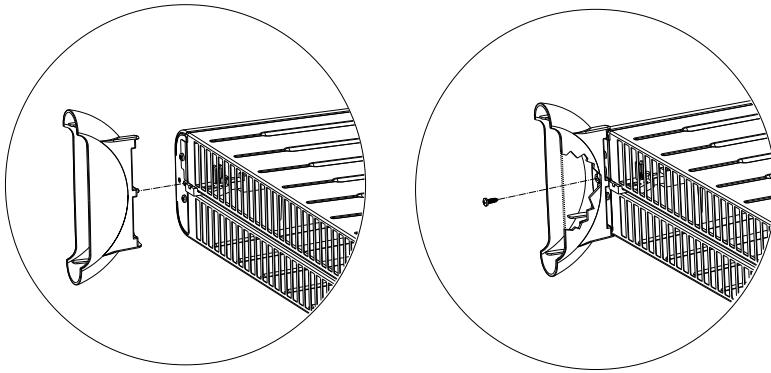

Fig. 1
- Fasten the feet in position using the screws supplied (see fig. 1).